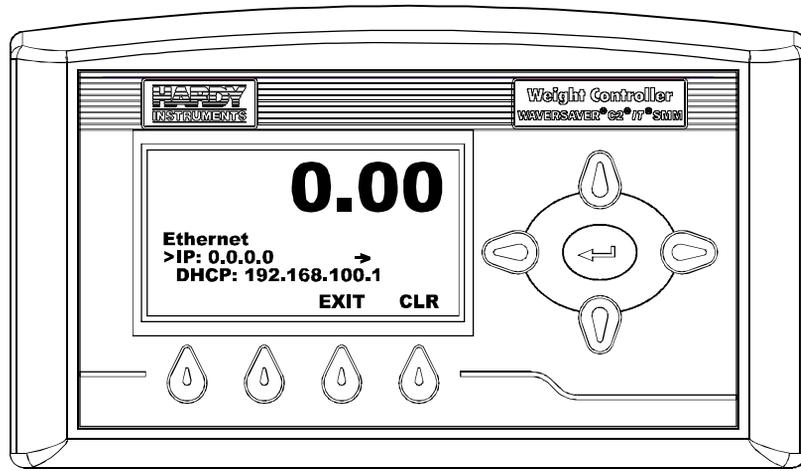

FIG. 112 ETHERNET MENU/IP ADDRESS 0.0.0.0
- Press the Enter button to save the entry. The Ethernet Menu appears with the IP address 0.0.0.0. (See Fig. 112)